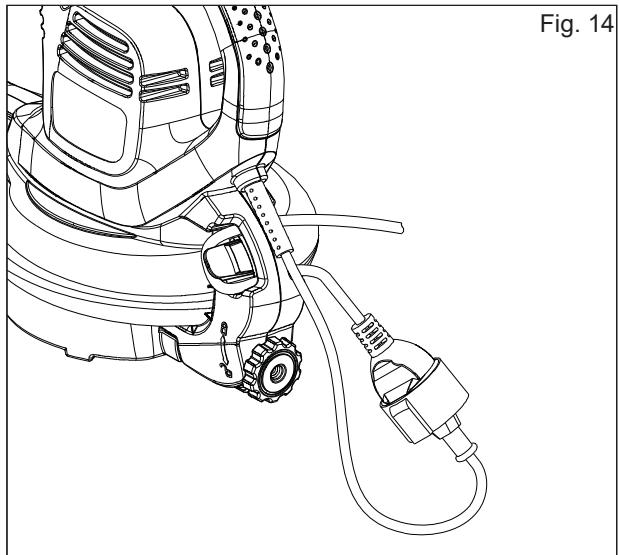

Fig. 14
1. Secure the extension cord to the motor housing using the cord retainer located at the rear of the blower. Securing the extension cord in this manner prevents accidental removal of the electrical cord during operation (Fig. 14).